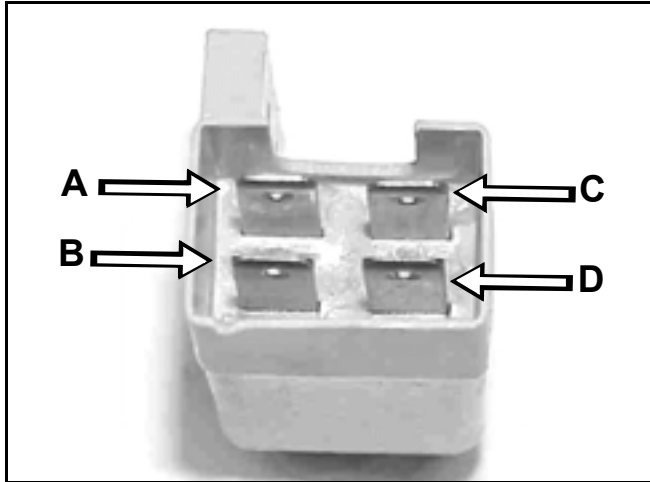

Figure 239 Brake Switch.doc
- Using a multimeter, follow the procedures listed below (Figure 239):